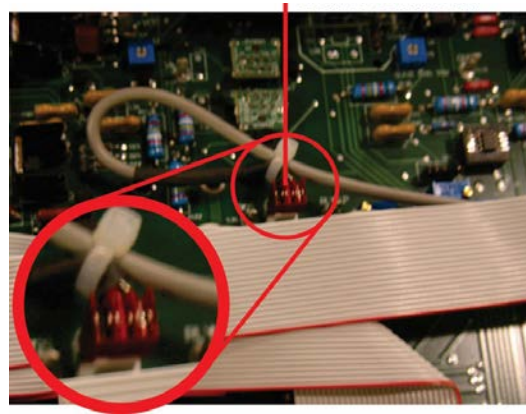

Figure B.2.19 – Gain Control Connection on the Main Board
1. On the amplifier main board, locate the connector that connects the external gain control to the main board by following the wire leading from the gain control (see **Figure B.2.19**).